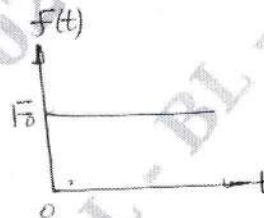

Fig. Q3 (b)
- Obtain the response for a spring-mass system subjected to the following excitation as shown in Fig. Q3 (b). (14 Marks)